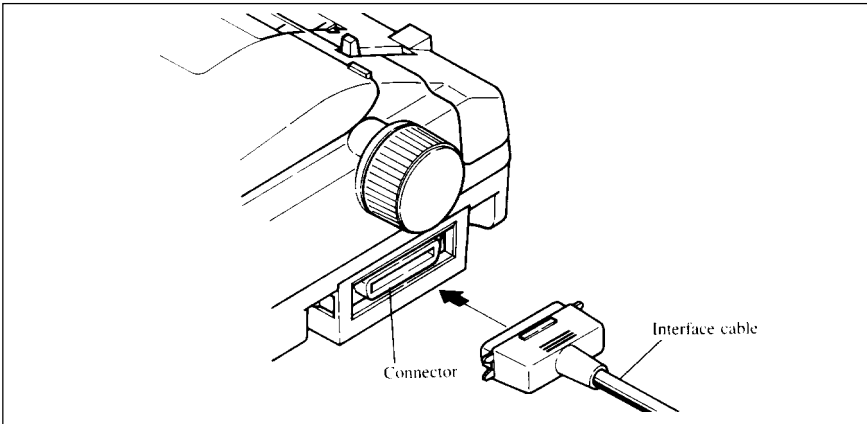

Figure 2-9. Connector the interface cable.
2. Plug the cable's Centronics connector into the socket on the side of the printer as shown in Figure 2-9.